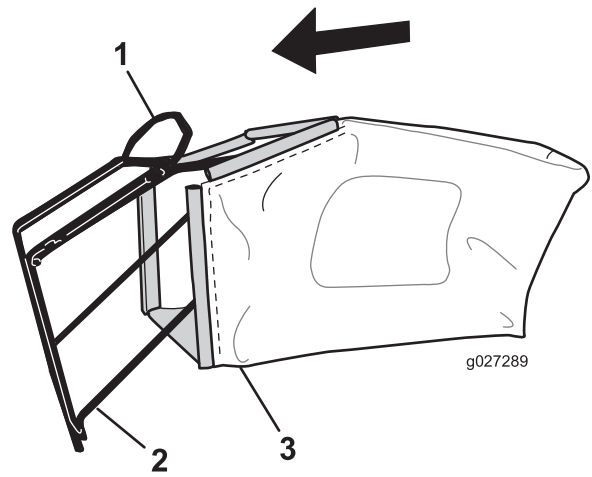

Figure 9
Note: Do not slip the bag over the handle (Figure 9).
1. Slip the grass bag over the frame as shown in Figure 9.